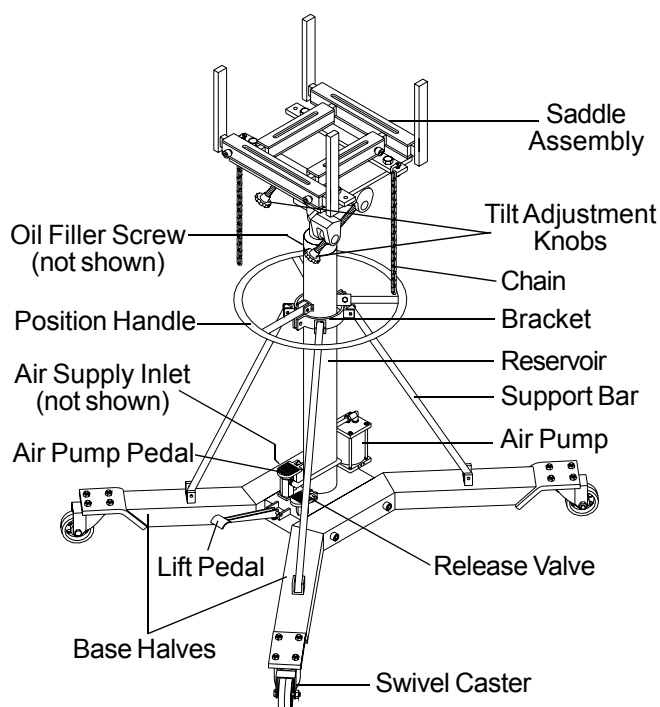

Figure 1 - Model 42001 Nomenclature
Refer to Figure 1 & 2:
1. Pour a teaspoon of good quality air tool lubricant into the air supply inlet (See figure 1). Connect to air supply and operate for 3 seconds to evenly distribute lubricant.